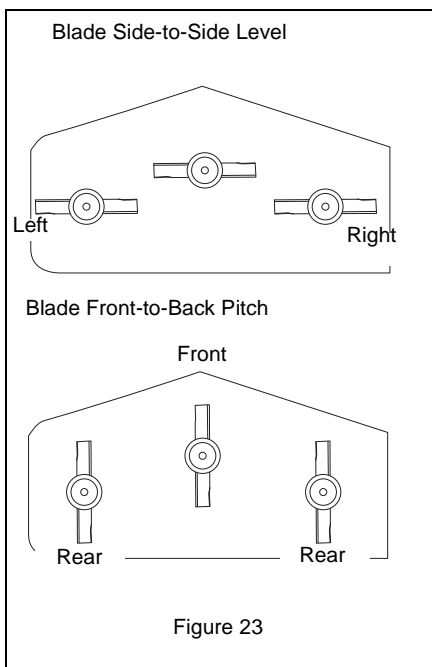
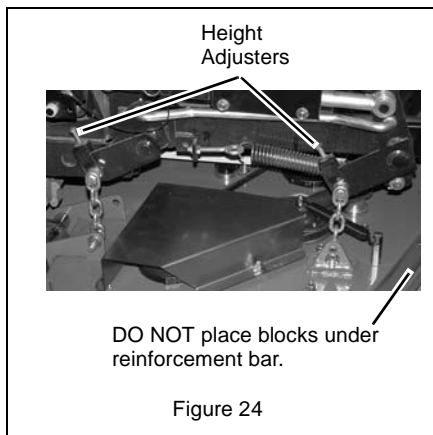

Figure 23
Figure 24
5. Measure the distance between the ground and cutting edge of the blade on the left blade (Left position in Figure 23) and on the right blade (Right position in Figure 23). Distances should be within 3/16 in. (4.7 mm). If they are not, raise the low side of the deck using the height adjusters on the deck lift brackets (see Figure 24).
7. Turn the blades so the blade ends point front to back as shown in Figure 23.
8. Measure the distance between the ground and the cutting edge of the middle blade at the front of the deck (Front position in Figure 23) and between the ground the cutting edge of the left and right blades at the rear of the deck (Rear position in Figure 23).
9. The cutting edge at the front of the deck (Front position in Figure 23) should be 1/8 in. (3.18 mm) lower than the cutting edges at the rear of the deck (Rear position in Figure 23).
10. If measurements are out of range, raise the low side of the deck using the height adjusters on the deck lift brackets (see Figure 24). Be sure to raise the deck evenly to keep the deck level side to side.
Level and pitch the mower with the height adjusters on each deck lift bracket (Figure 24).